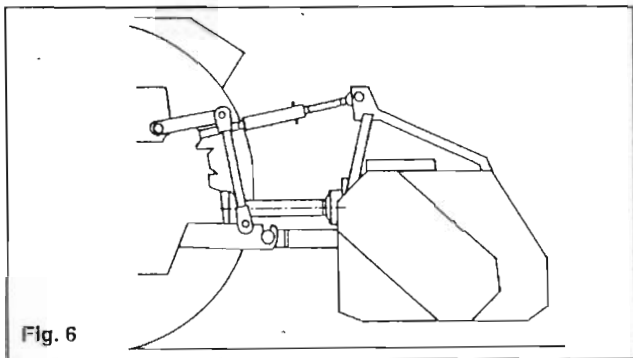

Fig. 6
- 3. FOR FINE ADJUSTMENT OF CUTTING HEIGHT THE TOP LINK CAN BE ADJUSTED AS REQUIRED, THIS IS PARTICULARLY USEFULL WHEN SCARIFYING BLADES ARE FITTED (FIG 6).**